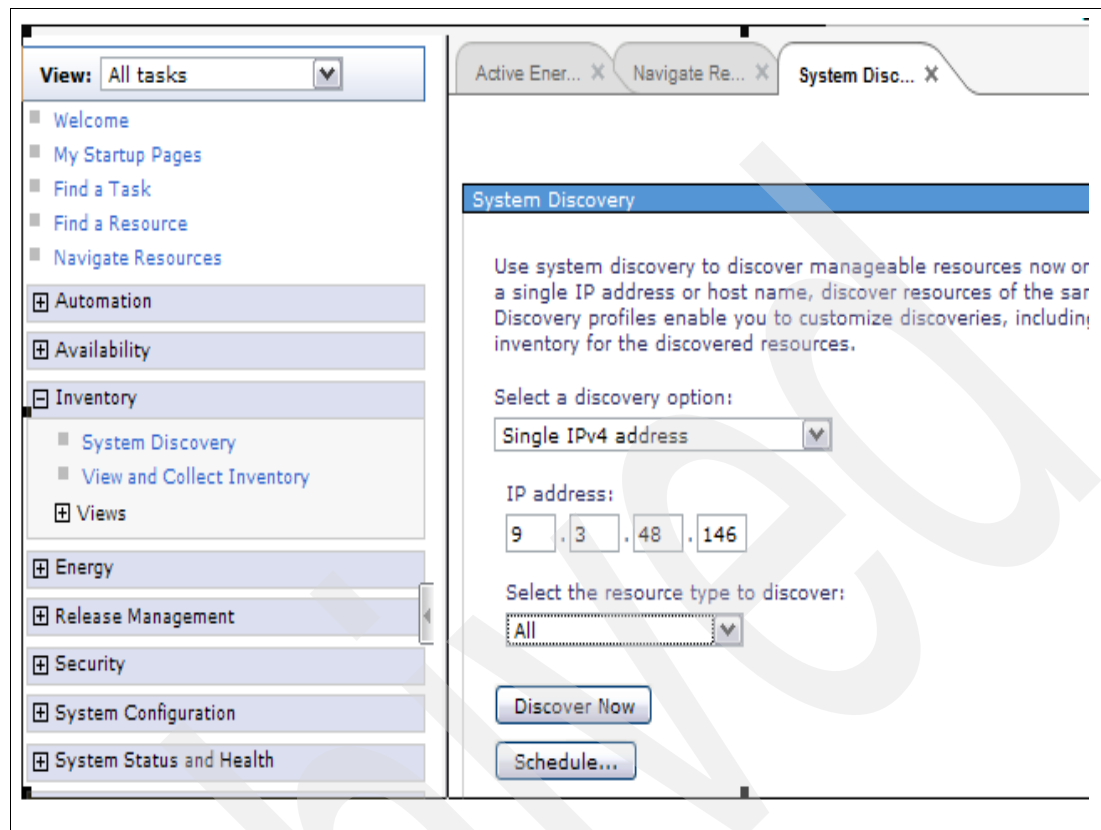

Figure 5-25 HMC discovery
- Click **Discover Now**, as shown in Figure 5-25.